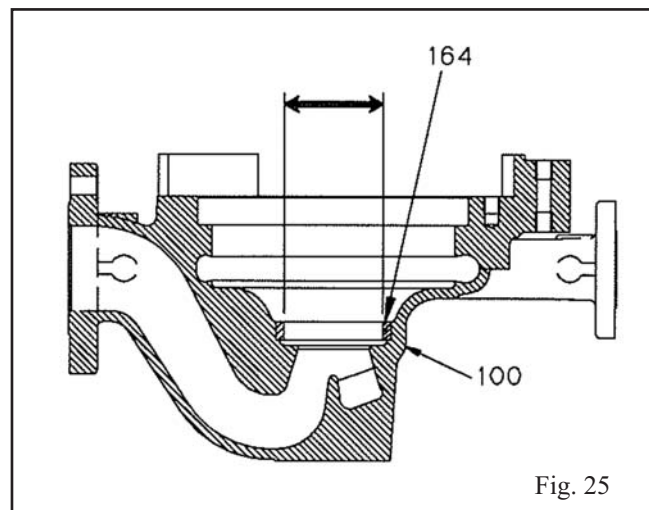

Fig. 25
1. Measure all wear ring diameters (Figs. 25, 26, 27).